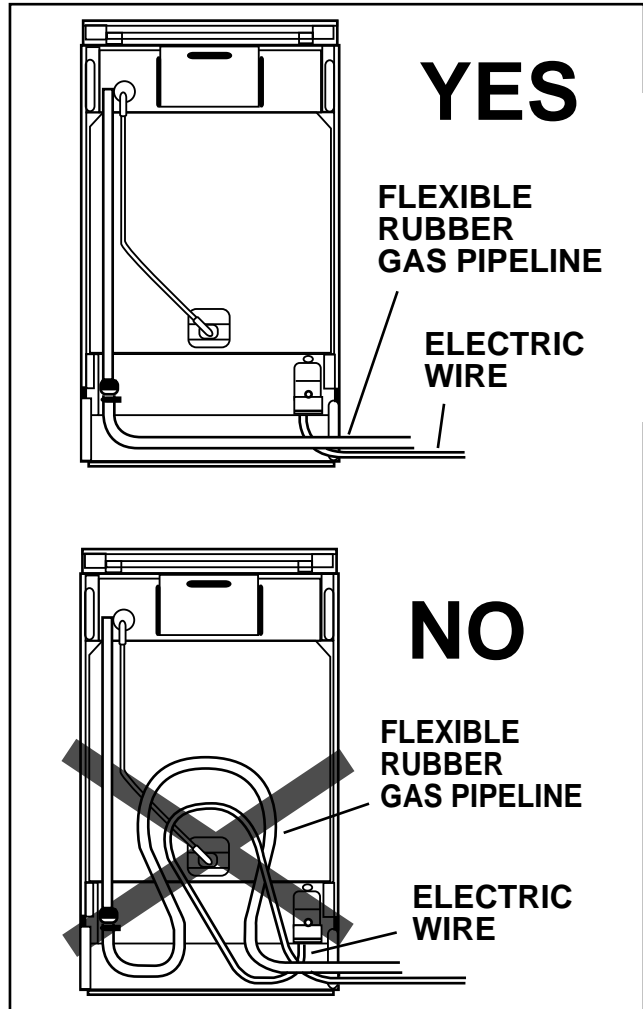

Fig. 25
- nowhere it can reach overtemperature, other than room temperature, higher than 30°C; if the flexible pipe, to reach the cock, must run behind the range, it must be installed as shown in Fig. 25;